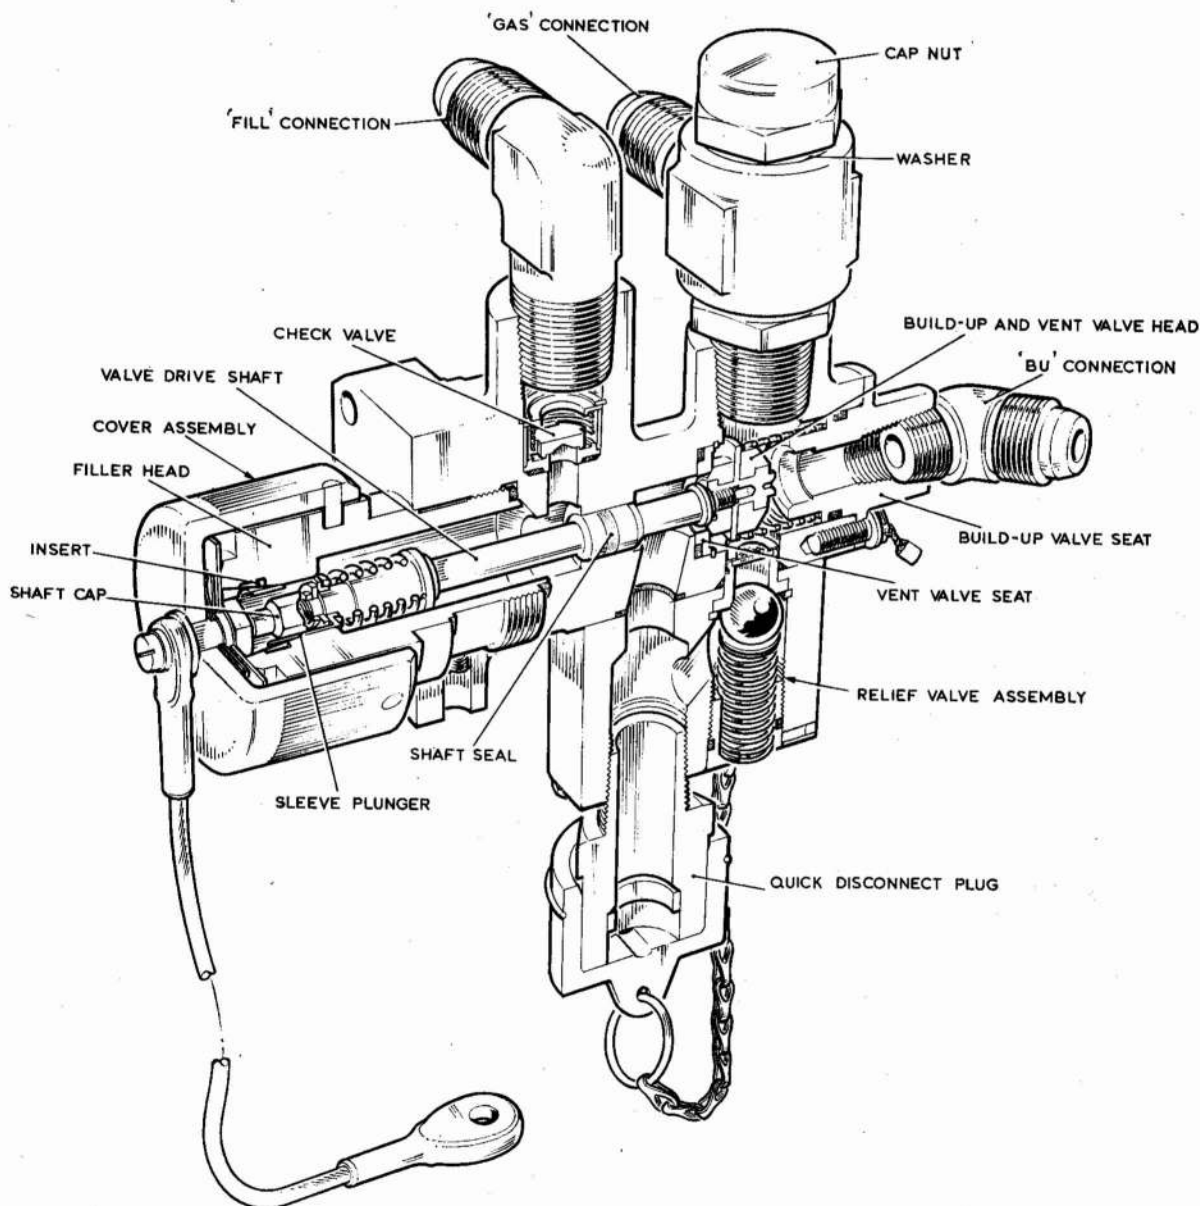

Fig. 2. General arrangement
2. A filler head is screwed into one end of the valve (fig. 2) and locked by two set screws which, in turn, are locked with locknut cement. The head is of light-alloy and has a central passage which, at the inlet end, is tapered and houses a Fluon insert in an annular groove. Three bayonet-type slots round the head provide attachment for the ground filling connector, and secure a cover assembly when the filling connector is disconnected.